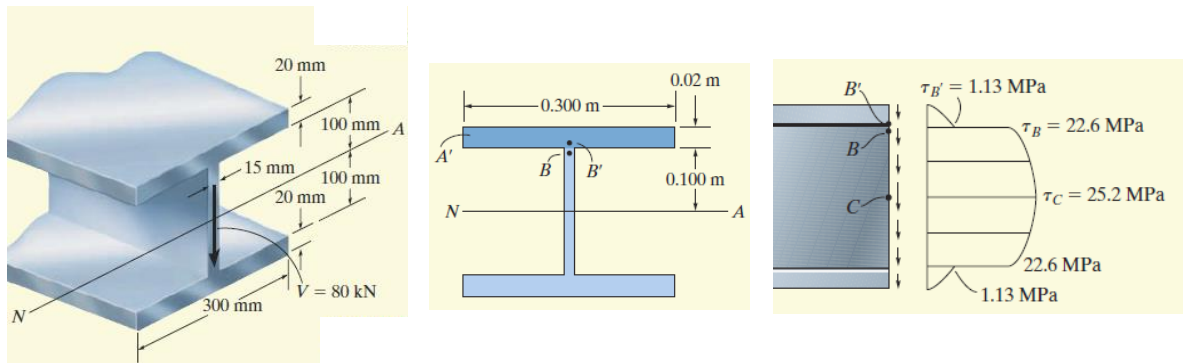

Fig. 1
1. A steel wide-flange beam has the dimensions shown in Fig. 1. If it is subjected to a shear of plot the shear-stress distribution acting over the beam's cross-sectional area.